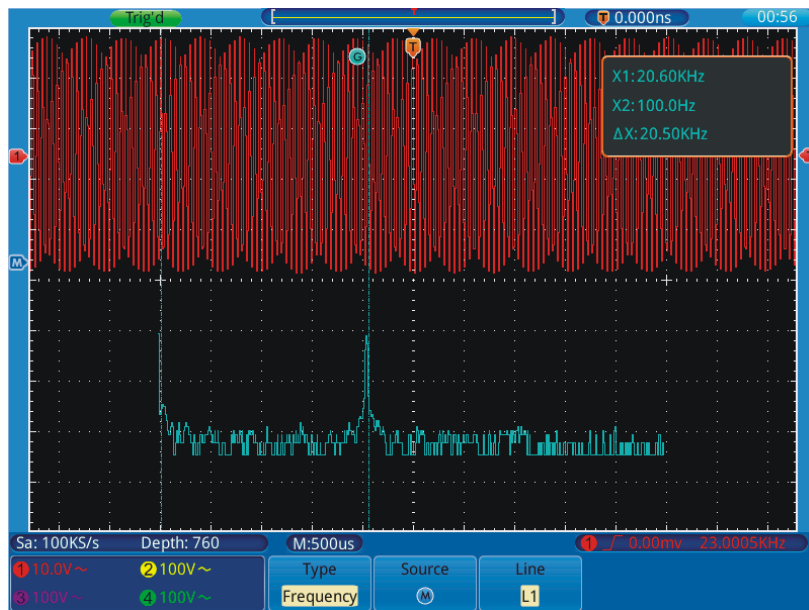

Figure 35. Wave of Freq cursor measurement.
- 4 Select **Line** in the bottom menu; select **L1** in the right menu. The **G** icon will appear beside the dotted line of L1, represents you can turn the **G** knob to adjust the position of L1. Select **L2** to adjust the position of L2. Select **L1&L2** to adjust the two cursors together. The cursor measure window at the top right shows the present position of two cursors and the absolute value of frequency difference (see Figure 35).